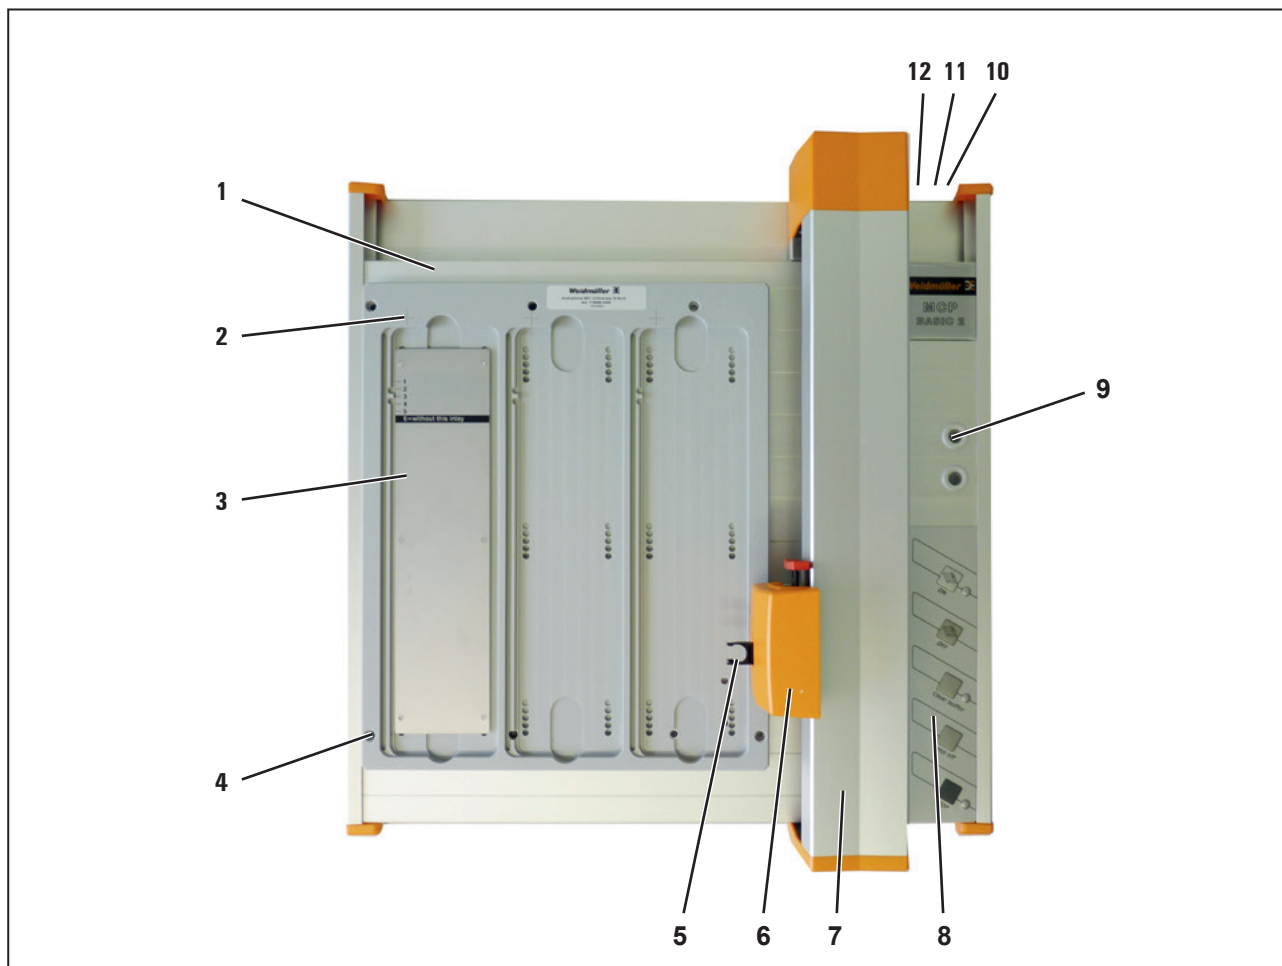

Fig. 4.1 Product overview
- ▶ Connect the mains connection cable to the plotter (Fig. 4.1, number 10).
- ▶ Connect the USB cable to the plotter (Fig. 4.1, number 12) and connect it to the PC.